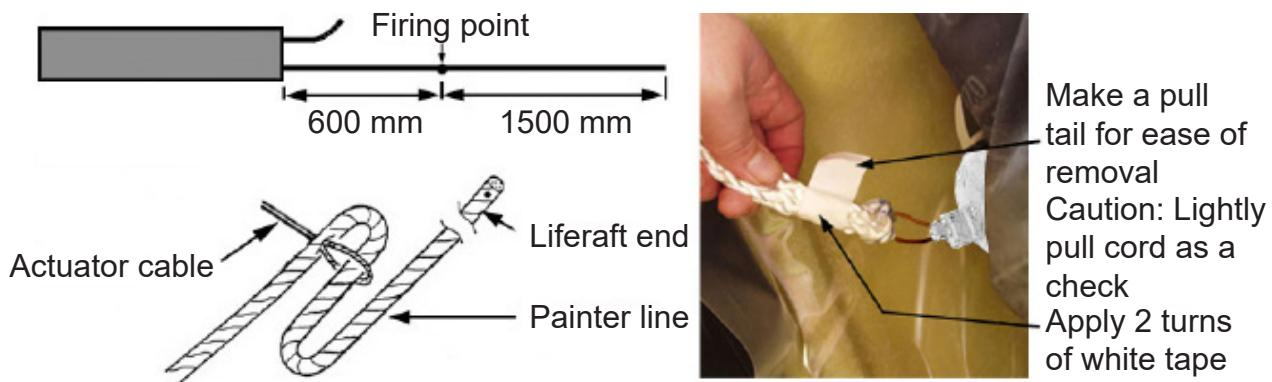

FIGURE 851
- 6.18 Make sure that 2.5 m (100") exits the painter sachet. Refer to FIGURE 851.
- 6.20.1 At the firing point, (1.5 m (59") from the end of the line), put the actuator cable of the operating mechanism through the painter line. Thread the remaining painter line back through the actuation cable. Refer to FIGURE 851.
6.20.2 Make sure that the painter cord is firmly attached to the operating head by lightly pulling on the cord. Refer to FIGURE 851.